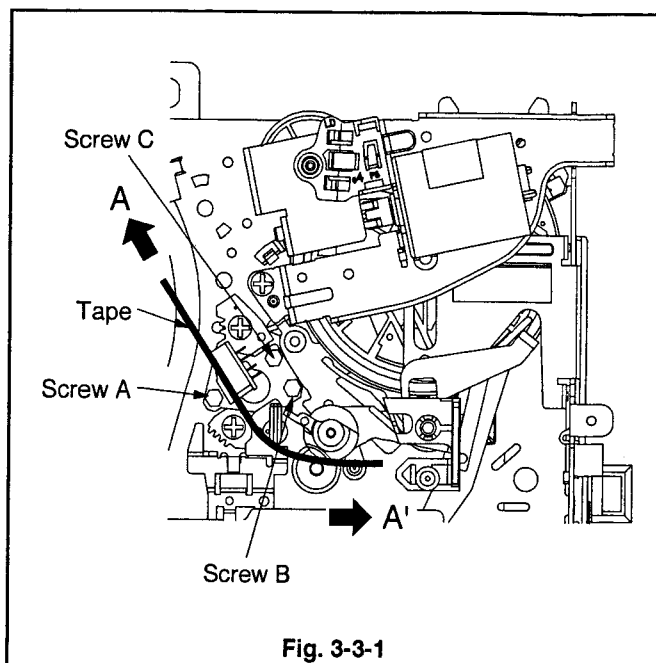
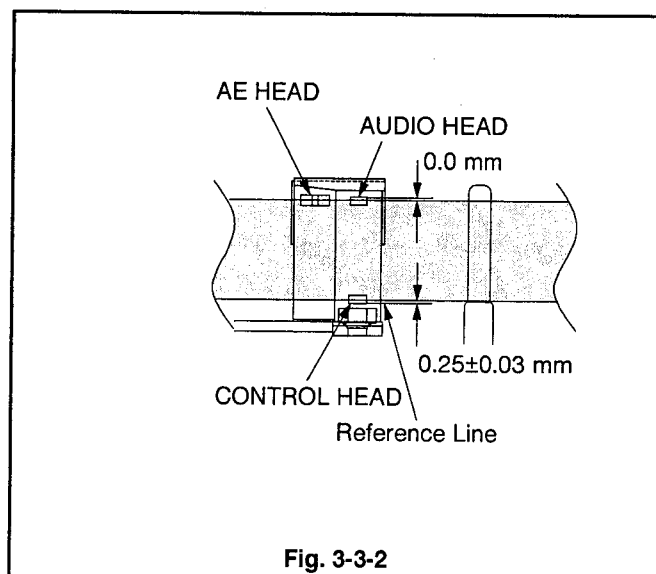
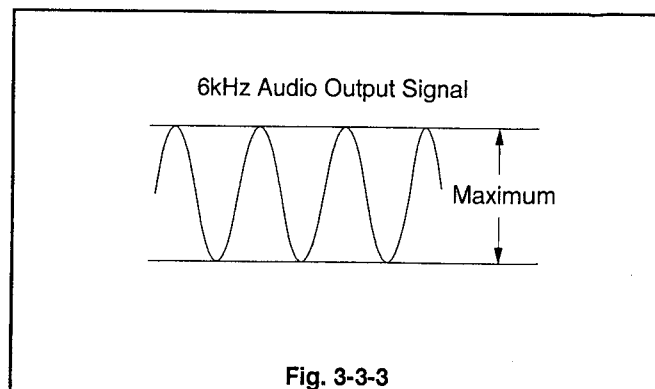

Fig. 3-3-1
Fig. 3-3-2
Fig. 3-3-3
2. Slowly turn the slant adjustment Screw C shown in the Fig. 3-3-1 counter-clockwise to slightly crease the bottom of the tape at the Lower FLANGE of the GUIDE POLE (TU).
1. If the height of the CONTROL HEAD is shifted from the specified value in the Fig. 3-3-2, adjust it with the Height Adjustment Screws A, B and C shown in the Fig. 3-3-1.
5. Turn the Azimuth Adjustment Screw B in the Fig. 3-3-1 to set the audio output level in the Fig. 3-3-3 at the maximum. After the adjustment, remove the screw driver and confirm that the audio output level is 4.6 divisions or more when the maximum audio output level is set to 5. If the audio output level is less than 4.6, repeat steps 1 ~ 5.
6. Push the A/C HEAD to the right and left (in the direction of A-A' in the Fig. 3-3-1) and release it. And confirm that the audio output level does not change. (Do not push the A/C HEAD until the audio output level is reduced to 3/4 or less of its maximum level.)
9. If the above procedure steps 1 ~ 8 proves to be unsatisfactory, replace the TAPE GUIDE ASSY (SP) and the TAPE GUIDE ASSY (TU), according to the Item 2-32. "TAPE GUIDE ASSY (SP), TAPE GUIDE ASSY (TU)".